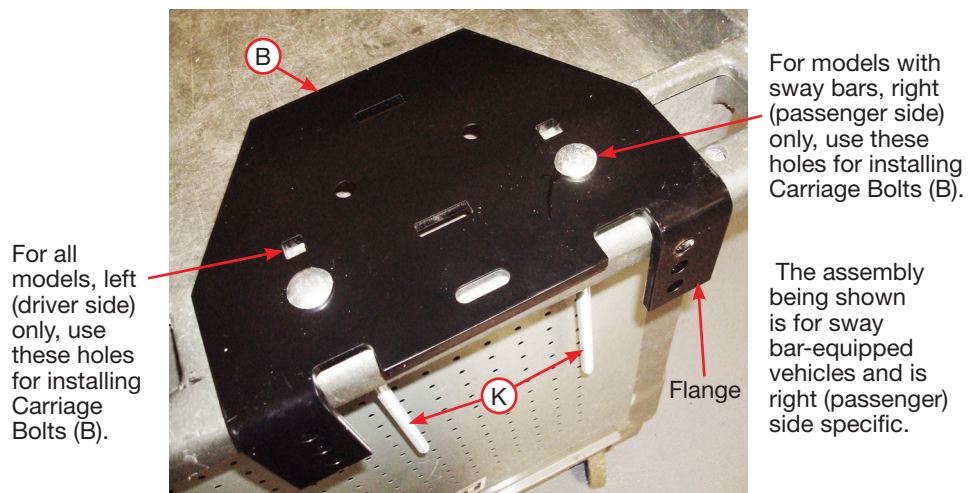

Fig. 11
- Insert two 3/8"-16 X 10" carriage bolts (K) through the square holes in the lower bracket main plate (B) as shown. **For models with sway bars:** use the holes farthest away from the flanges for the left (driver's) side and the holes closest to the flanges for the right (passenger's) side installation (Fig. 11). **For all models without sway bar,** use the square holes farthest away from the flange for both sides of the installation.